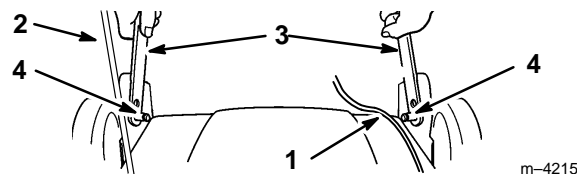

Figure 1
5. Lay the upper handle on the ground behind the mower with the handle label facing up and the control cables routed between the handle mounting brackets (Fig. 1).
1. Squeeze the lower handle section ends together, position the holes in the handles over the pins on the handle brackets, and release the handle (Fig. 1).